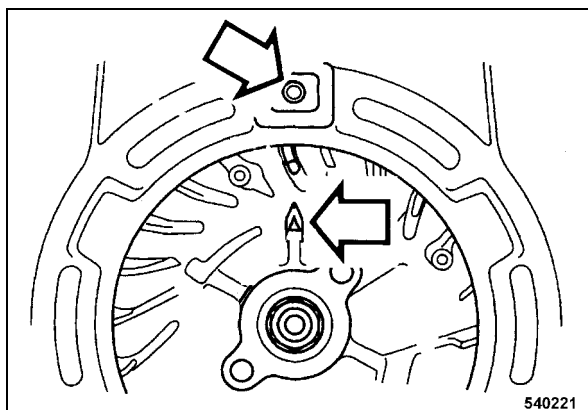

Fig. 47
- Align the alignment mark on the flywheel rib (Fig. 47) with the top bore in the fan cover .